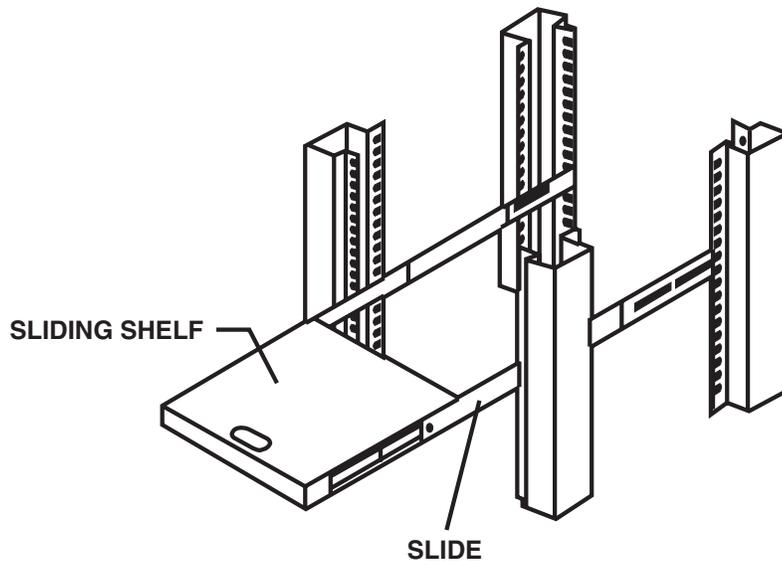

Figure 3-17. Attaching the Sliding Shelf.
**STEP 3:** Attach the sliding shelf to the cabinet (see Figure 3-17).